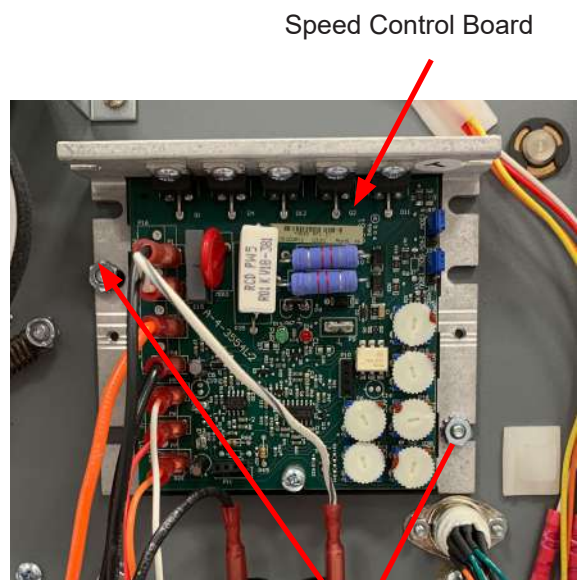

Fig. 45
3. Unplug the electrical connections from the board. Note the position of each connection (Fig. 45),